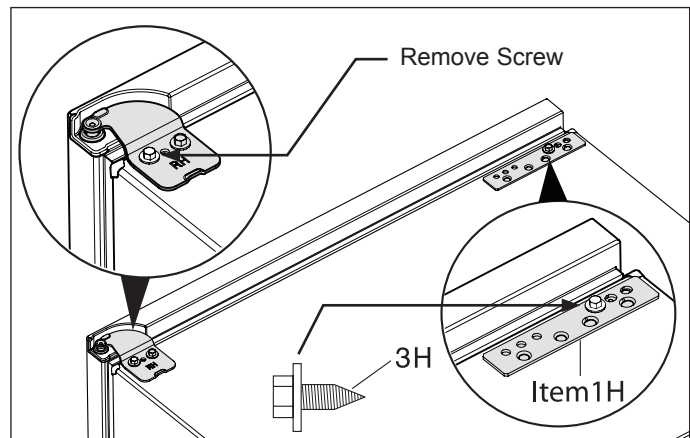

Figure 9
6. Remove outer screw from top hinge using a 3/8" socket driver or wrench and save for later. Install mounting bracket with one screw mounted to inside hole using a 3/8" socket. (See Figure 9).